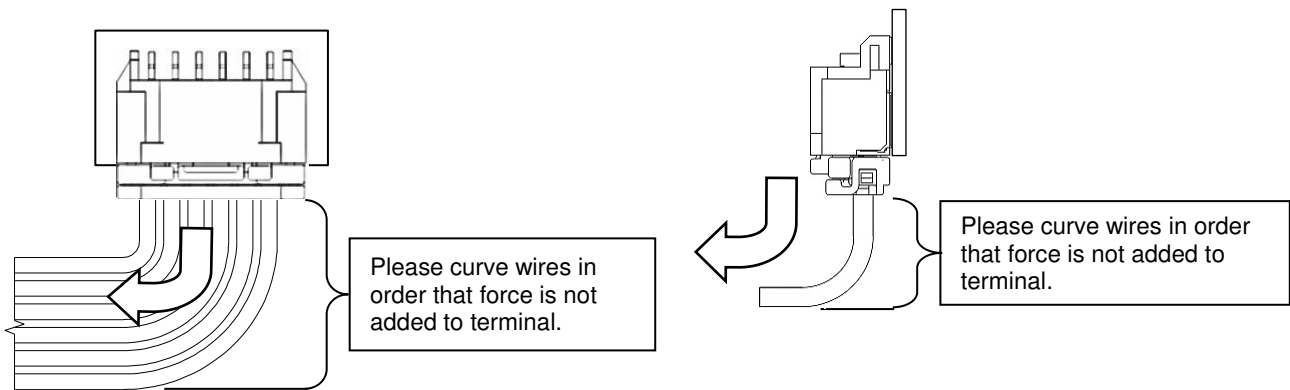

Fig.9-3-1 Condition wires are curved
- ※If you plan on pulling around wires inside machine, please take measures to prevent force from applying to connectors directly, such as allowing wires to have enough flexibility. **(Fig.9-3-1)**